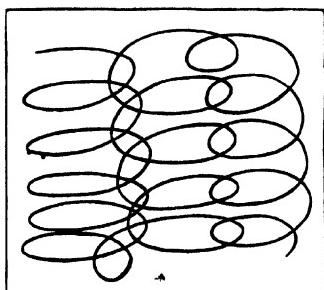

Fig. 304. Direction of the Pad in French Polishing.
(1) Preparation. The surface of the wood must be perfectly smooth and even, sandpapered in the direction of the grain, stained, if desired, filled, rubbed smooth and quite dry. (2) Apply two or three thin coats of shellac. After each coat when dry, rub with No. 00 oiled sandpaper or No. 00 steel wool. Wipe thoroly. (3) Make three pads, about the size of a walnut, of clean, white, cotton waste, enclosed in some fine old or washed cloth with no sizing or lint,—one pad for shellac, one for oil, and one for alcohol. Fill one pad with shellac of the consistency of milk, enough in the pad so that when squeezed hard it will ooze out. The common mistake is to put too much shellac into the pad. Rub with circular motion, as indicated in Fig. 304, never letting the pad stop on the surface.
(4) Sprinkle a very little finely powdered pumicestone and put a little oil on the surface of the wood here and there with the tip of a finger. Rub with second pad until surface is dull. Wipe clean. Repeat (3) and (4) several times. Some use raw linseed oil to prevent sticking. Others use three or four cloth coverings on the shellac pad, removing the outer one as